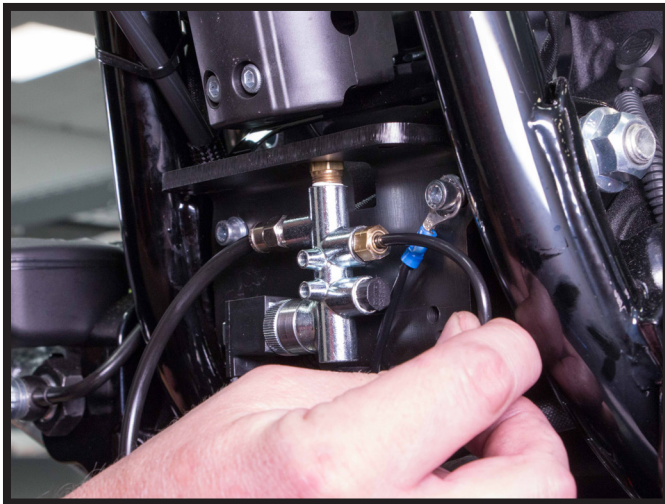

FIGURE 30
16. ROUTE THE 4MM AIR HOSE FROM THE FRAME AND UNDER THE ENGINE TO THE AIR MANIFOLD. TRIM THE HOSE TO LENGTH. THEN FOLLOWING THE SAME PROCEDURE AS BEFORE ATTACH THE VOSS FITTING TO THE HOSE AND SCREW IT INTO THE AIR MANIFOLD. (FIGURES 30, 31)